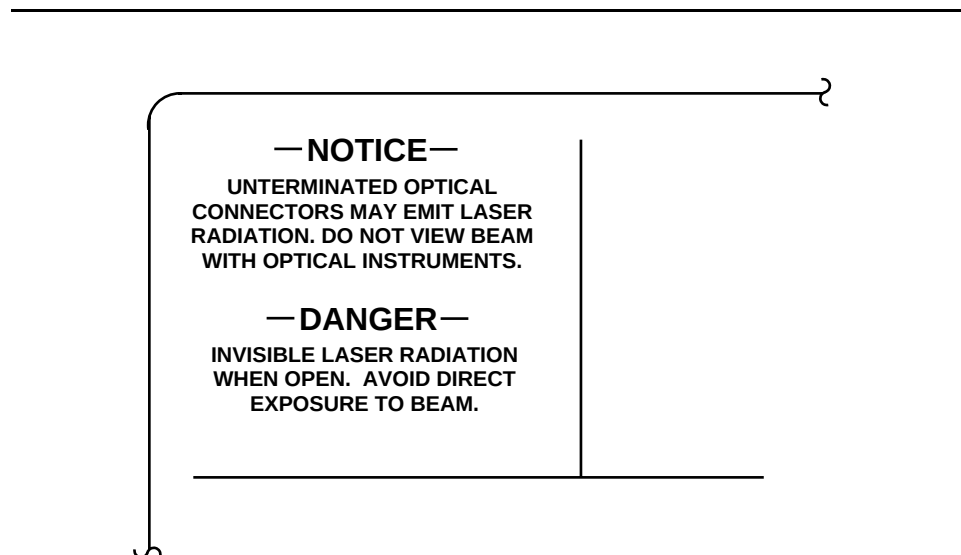

Figure 1. Safety Label
3. Since viewing lightwave emission directly with an optical instrument, such as an eye loupe, greatly increases the risk of eye damage, an appropriate label must appear in plain view on the front of the main frame or lightguide termination/interconnection equipment. The safety label (Figure 1) shall read as follows: